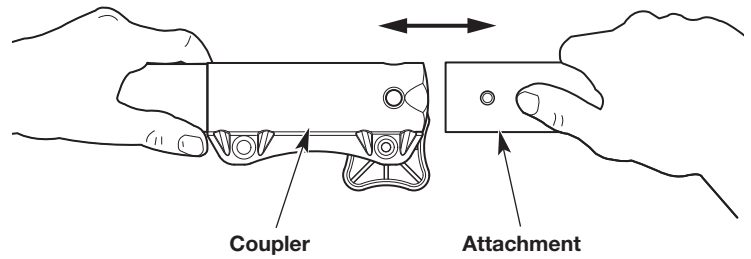
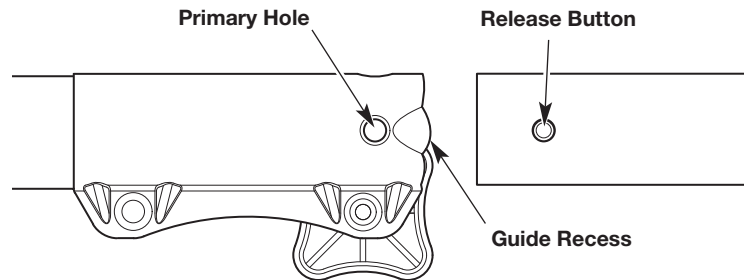

Fig. 3
Fig. 5
4. Align the release button with the guide recess (Fig. 5).
5. Push the attachment straight into the coupler (Fig. 3) until the release button snaps firmly into the primary hole (Fig. 5).
3. Press and hold the release button (Fig. 5).
4. Pull the attachment straight out of the coupler (Fig. 3).